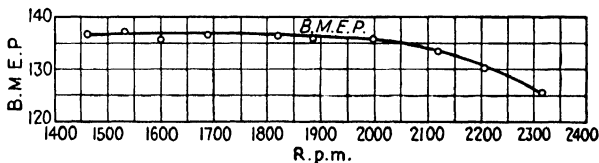

Fig. 271.—Graph of B.M.E.P. for Jacobs aircraft engine.
9. The graph in Fig. 271 shows how the B.M.E.P. keeps changing with the r.p.m. Complete the table of data *in your own notebook* from the graph.